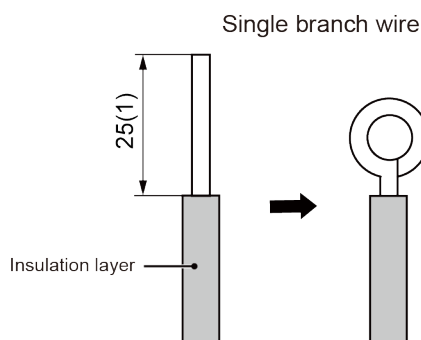

Fig.5.1.1
5.1 Connection of Wire and Patch Board Terminal**(1) The connection of wire (as shown in Fig.5.1.1)**